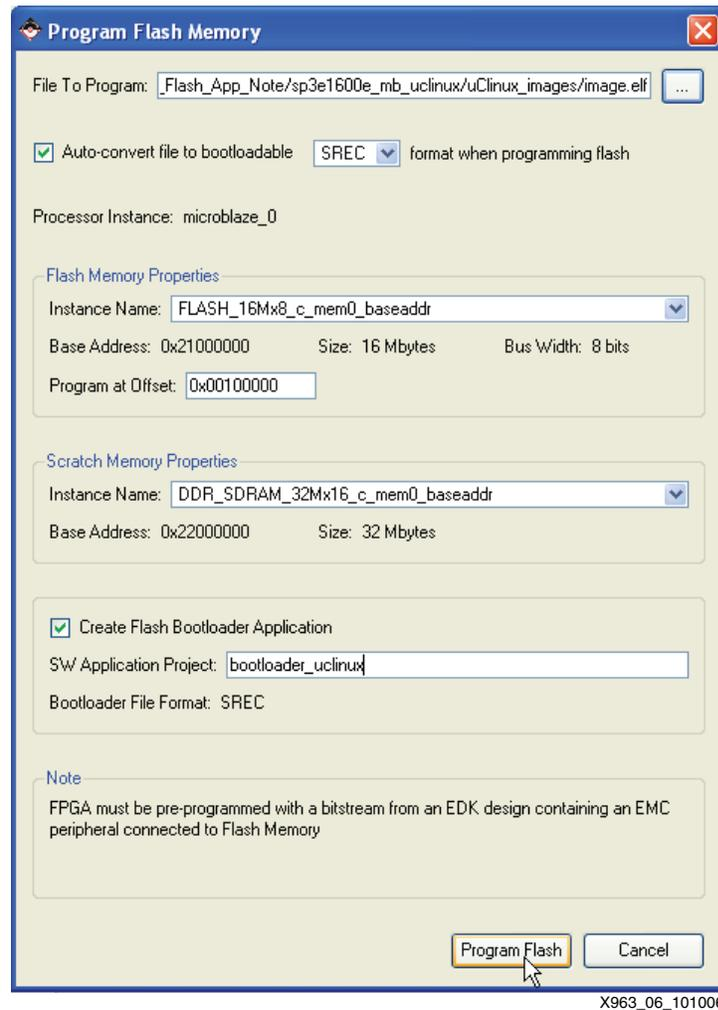

Figure 6: Program Flash Memory Dialog Box for the  $\mu$ Clinux ELF
- In the Program Flash Memory dialog box, choose the file to program to be `/uClinux_images/image.elf` under the project root directory. Check the *Auto-convert file to bootloadable SREC format when programming flash* check box. Change the program offset to the desired value, allowing enough room for the MCS file, which will be programmed at `0x00000000`. The provided example files use an offset of `0x00100000`. A bootloader is created by clicking the *Create Flash Bootloader Application* check box in the Program Flash Memory dialog box. The Program Flash Memory settings are shown in Figure 6.